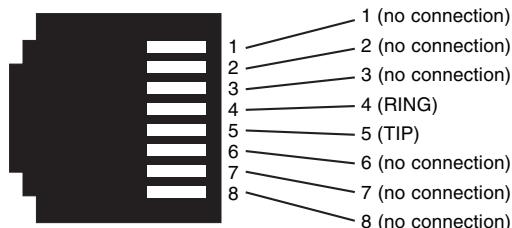

Figure 3. CL1212 (RJ-45) twisted pair line interface.
2. The CL1212 is equipped with an RJ-45 interface jack (figure 3)
The RJ-45 connector on the CL1212's twisted pair interface is polarity insensitive and is wired for a two-wire interface. The signal/pin relationship is shown in figure 3.